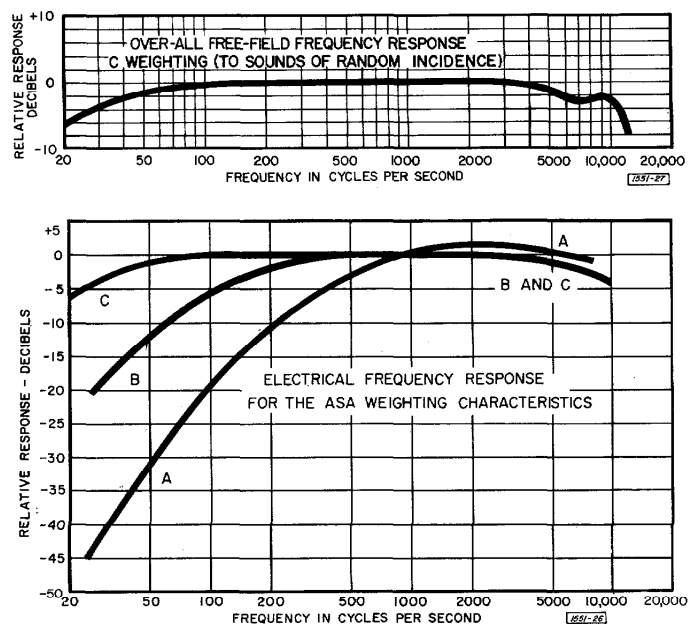

Figure 3. Typical Acoustical and Electrical Response Curves for Type 1551-C.
2.3 SELECTION OF WEIGHTING NETWORK. Many early noise criteria specified weighted sound levels, using this rule of thumb: A weighting for sound levels from 24 to 55 db, B for levels from 55 to 85 db, and C for levels from 85 to 140 db. (The appropriate range was selected after a preliminary C-weighted measurement.) More recent opinions favor selection of weighting network on the basis of the type of noise measurement; for instance, A weighting is often preferred for speech-interference measurements, while B is recommended for surveys of traffic noise. In the absence of specific weighting requirements, it is usually helpful to take measurements on all three weighting networks. For a full discussion of weighting networks, refer to the General Radio Handbook of Noise Measurement. Response curves for the various weighting networks, equalized for microphone response, are given in Figure 3.